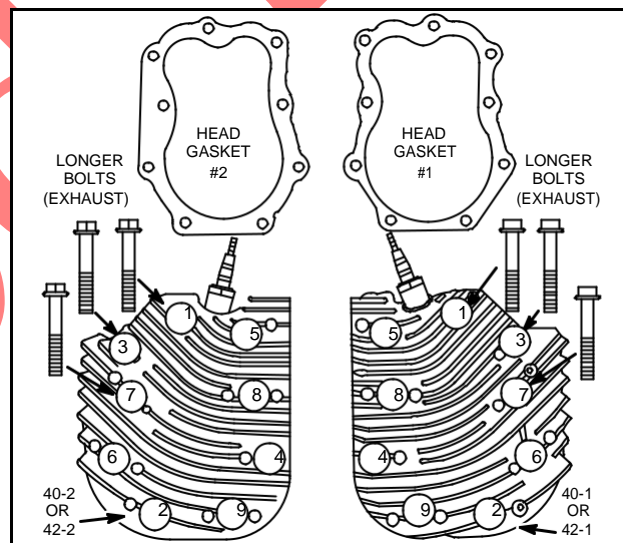

Fig. 34 – Head Nos. and Torque Sequence
Some models use three (3) longer head bolts located around the exhaust valve area. Note the position of these bolts so that they may be correctly reassembled. If a short bolt is used in the wrong position, it may not engage enough threads. A long bolt in the wrong position may bottom on fins, either breaking the fins or leaving the cylinder head loose. Install long bolts around the exhaust valve area of the cylinder head, torque sequence 1, 3, 7, Fig. 34.